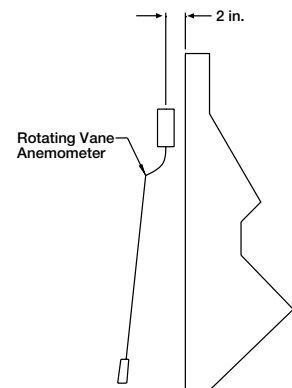

Fig. 28
- Measure the velocity of each location. A digital 2.75 in. (70 mm) rotating vane anemometer or its equivalent is suggested. The center of the anemometer should be held 2 in. (50 mm) from the face of the filters as in Fig. 28. It is helpful to make brackets to keep the anemometer at the 2 in. (50 mm) distance and parallel to the filter. Both squareness and distance are important for accuracy.